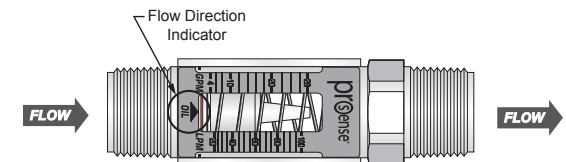

Figure 3: Flow direction indicator
These meters accept flow in one direction. Align the Flow Arrow, located on the bottom of the meter's flow scale, in the same direction as the anticipated line flow. See **Figure 3**.
3. Thread the flow meter and coupling onto the inlet pipe and hand tighten. Make sure the flow direction arrow on the flow meter corresponds with the system flow direction. See **Figure 3**.
2. Thread the inlet of the flow meter onto the appropriate pipe connection. Make sure the flow direction arrow on the flow meter corresponds with the system flow direction. See **Figure 3**.
8. Place flow meter between the two installed fittings. Make sure the flow direction arrow on the flow meter corresponds with the system flow direction. See **Figure 3**. Thread the two hex couplers onto the flow meter body.